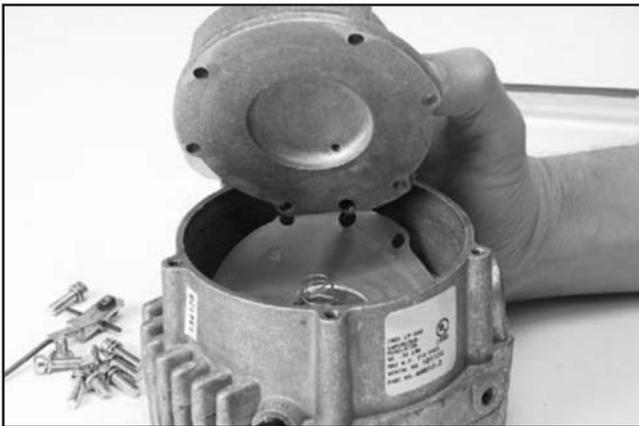

Figure 3-20. Install Primary Spring, Primary Cover and Screws
8. Place primary spring, small side up, on top of diaphragm. Install primary cover and screws. Remember, the 2 longer, 10-32 x 1.0", screws go to the top of the primary cover. Tighten evenly, in a criss-cross pattern, to 30 in. lbs. ± 3 in. lbs. (3.39 Nm \pm 0.339 Nm). See Figure 3-20.